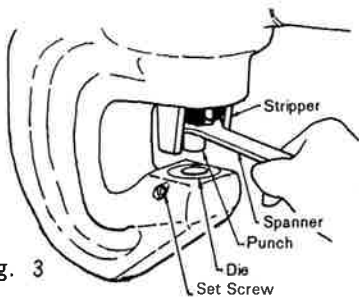

Fig. 3
- (6) Remove the lock nut, install the punch to the ram, and tighten the nut with the spanner (supplied with the machine). Loosen the setscrews on both sides of the machine body, push the die in with its edge-tip (smaller diameter) up, and tighten the setscrews. To remove, reverse these procedures. (See Fig. 3.)